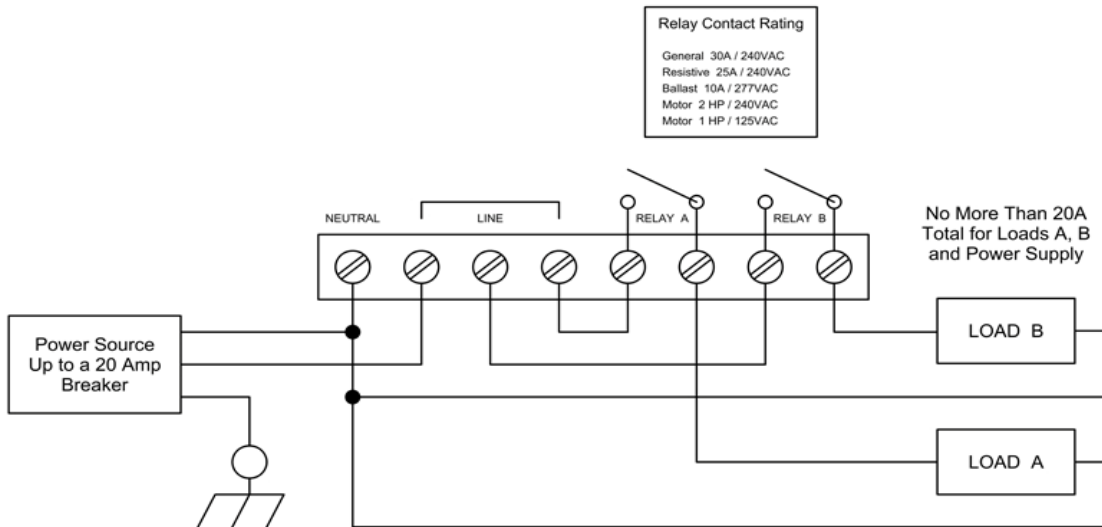
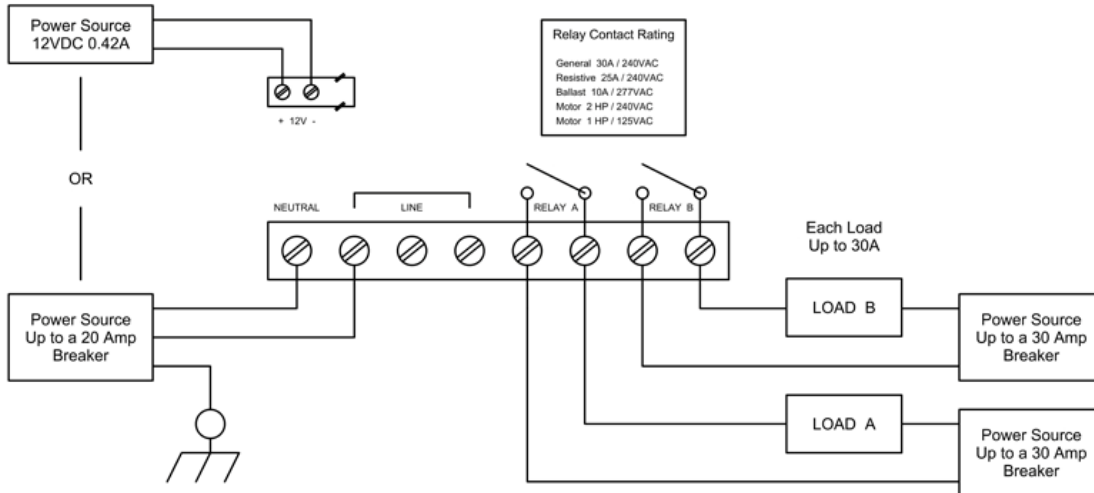
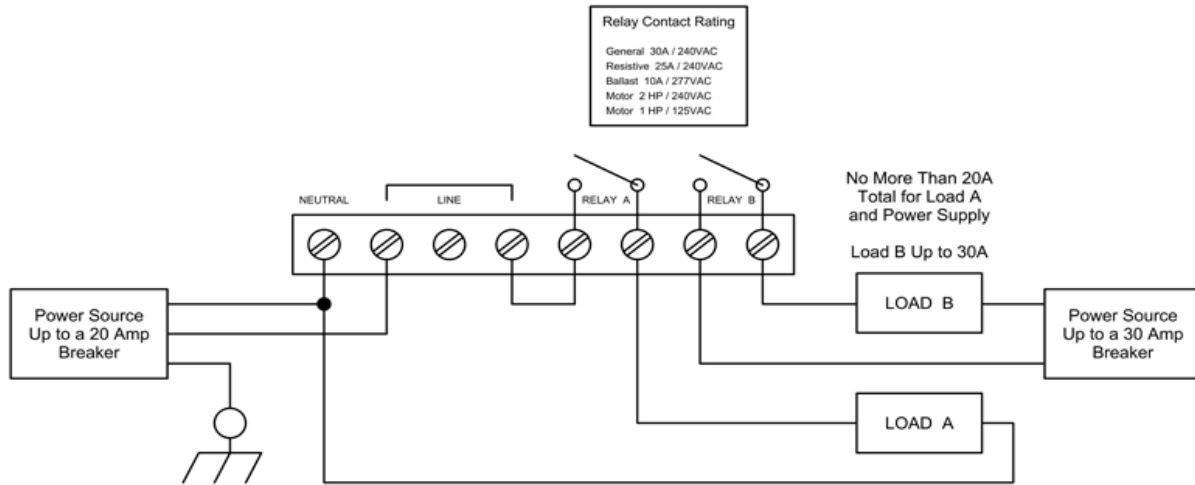

Figure 2 - High-Voltage Wiring Option 1
Figure 3 - High-Voltage Wiring Option 2
Figure 4 - High-Voltage Wiring Option 3
1. Connecting a 100-240VAC line power to the High-Voltage terminals of the device as illustrated in Figure 2, Figure 3, or Figure 4 of the high-voltage sample wiring diagrams section;